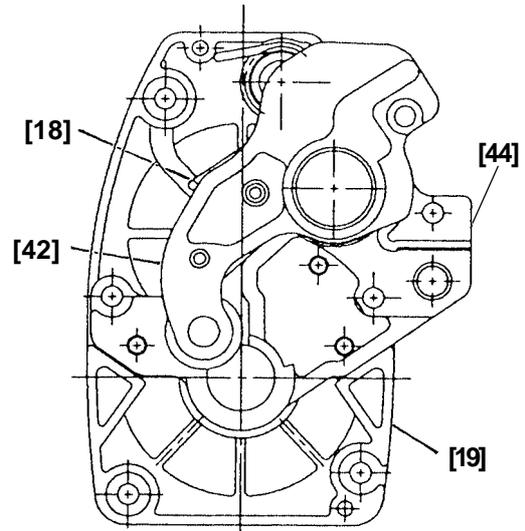

Fig. 37
(Fig. 37).
Return Spring [18] on Bracket (A) [42] (Fig. 37).